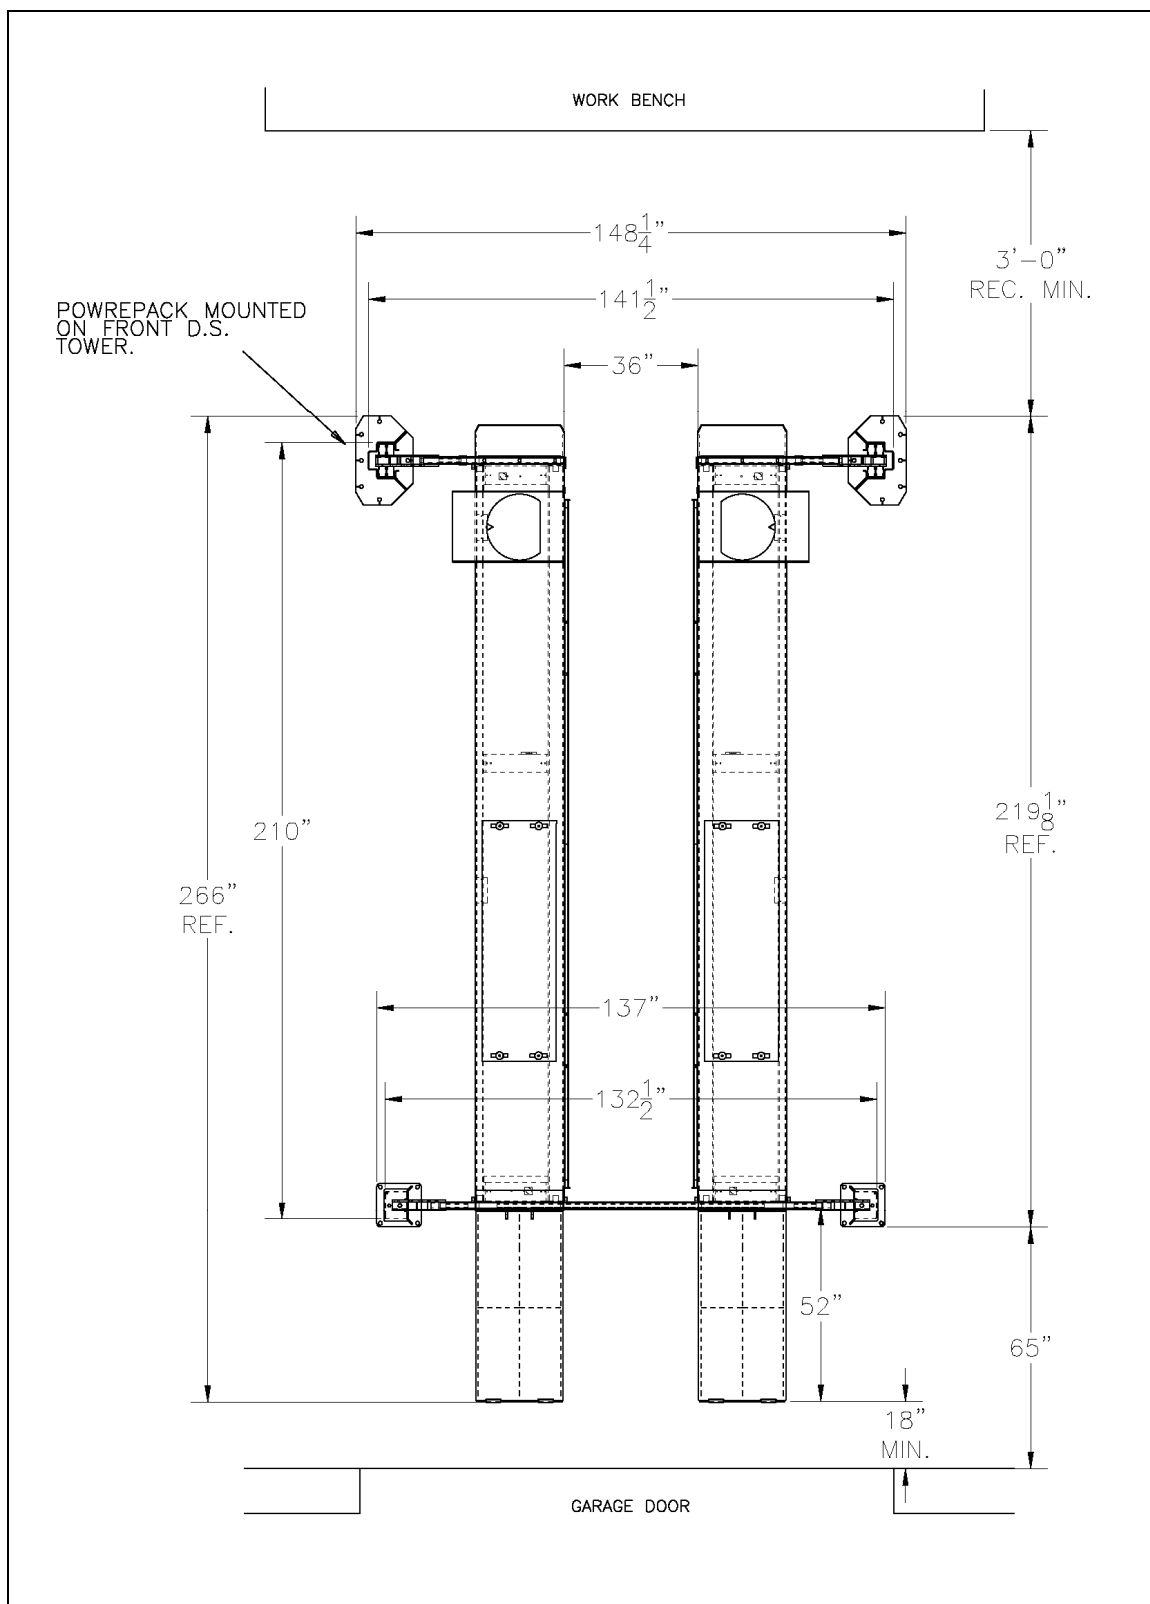
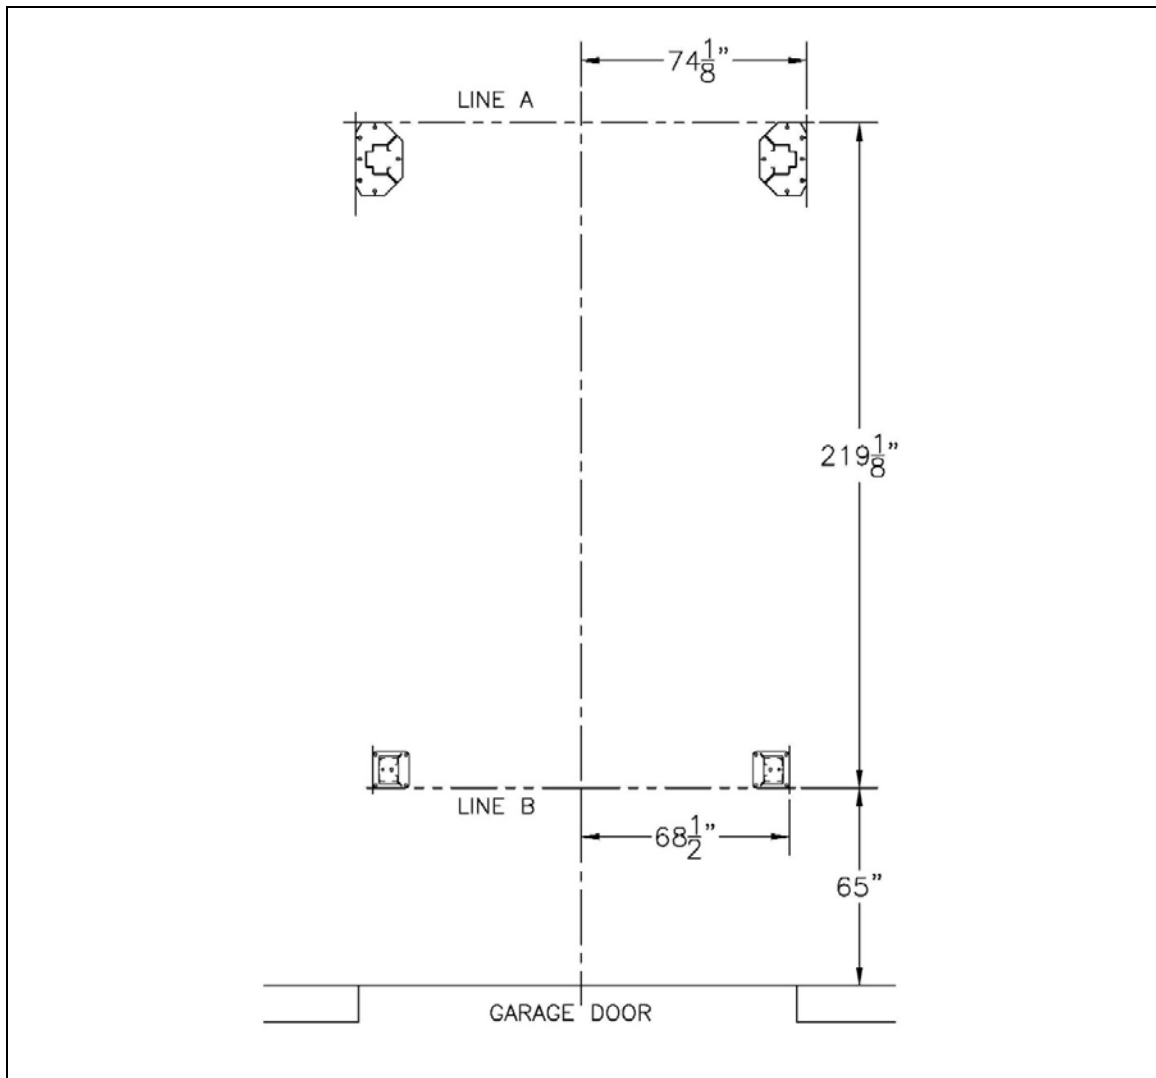

Figure 1. General lift specifications
Figure 2. Chalk line layout
- An outline matching the dimensions shown in Figure 2 will need to be marked on the floor. Refer to Figure 2 for outline dimensions. Refer to General Lift Specifications for overall lift dimensions. Figure 1.
- **Refer to Figure 2.** Make a chalk line parallel to the doorway at least $284\frac{1}{8}"$ in from the doorway. Call this line "A". This will be the location for the front face of the front posts basplate.
- Stand front towers up and position as per bay layout. See Figure 1 and Figure 2.
NOTE: THE 36" DIMENSION IS CRITICAL FROM FIGURE 1. THIS WILL ALLOW JACKING BEAMS TO ROLL FREELY.
- Stand rear posts into position according to Figure 1 and Figure 2.
- Install the threaded stud end of the cables through the top of the post. Use a 7/8" flat washer, and two (2) 7/8"-14 UNF hex nuts with cable spacers as required, to compensate for uneven floors.